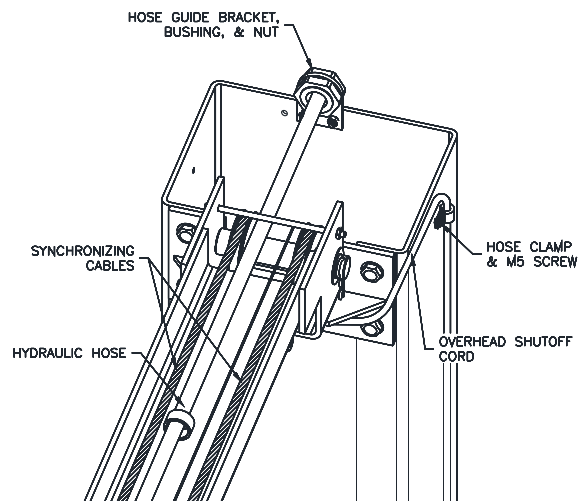

Fig. 7 – Power Side Routing
- 23) Beginning on the idler side, attach the idler extension hose to the cylinder elbow fitting (this hose is not needed for reduced height installations). Continue with the idler hose (long) up the backside of the column and through the plastic guide at the top of the column extension. Continue across the overhead through each of the guides as shown in Fig. 7 and down the backside of the power column.
- 26) Hoses, cables, and limit switch cord should be routed as shown in Fig. 7 for power side column extension. Route lines for the idler side using the hose guide bracket and idler side pulley bracket.